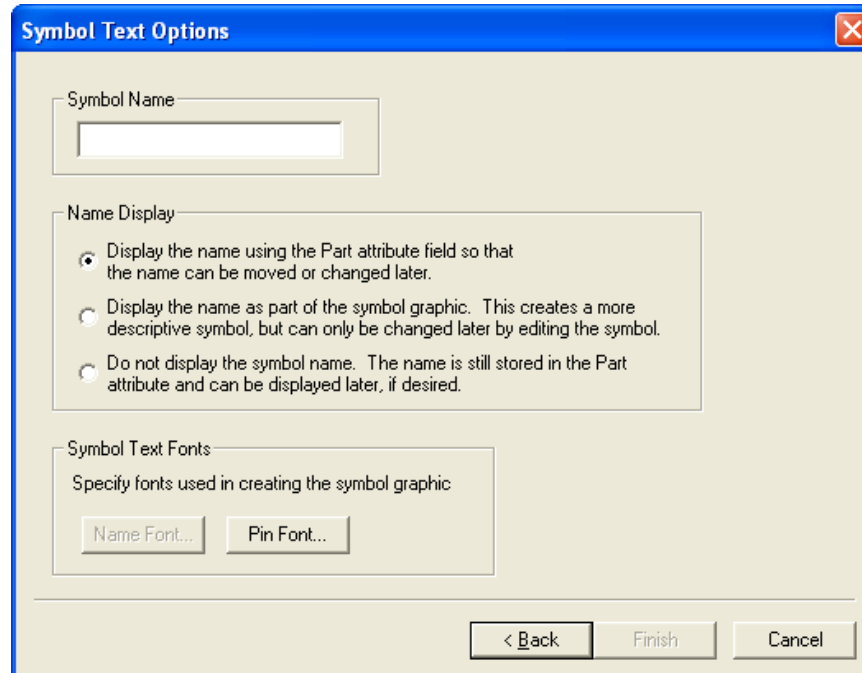

Figure 7
- m. Click on the “Next” button, to get the “Symbol Text Options” window shown in Figure 7.